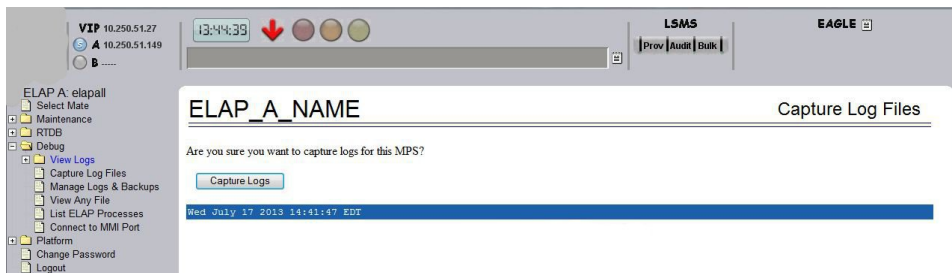

Figure 42: Capture Logs File Screen
4. Deselect (if necessary) the box labeled Check if you want to capture core files with the Logs, as shown in Figure 42: Capture Logs File Screen.